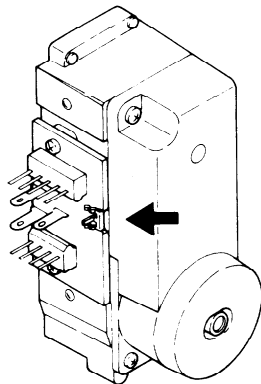

Figure 4
3. When mounting a new laser pick-up, first connect the connector and leads and then remove short-circuit spring on the P.C. Board (Refer to Fig. 4 and 5).